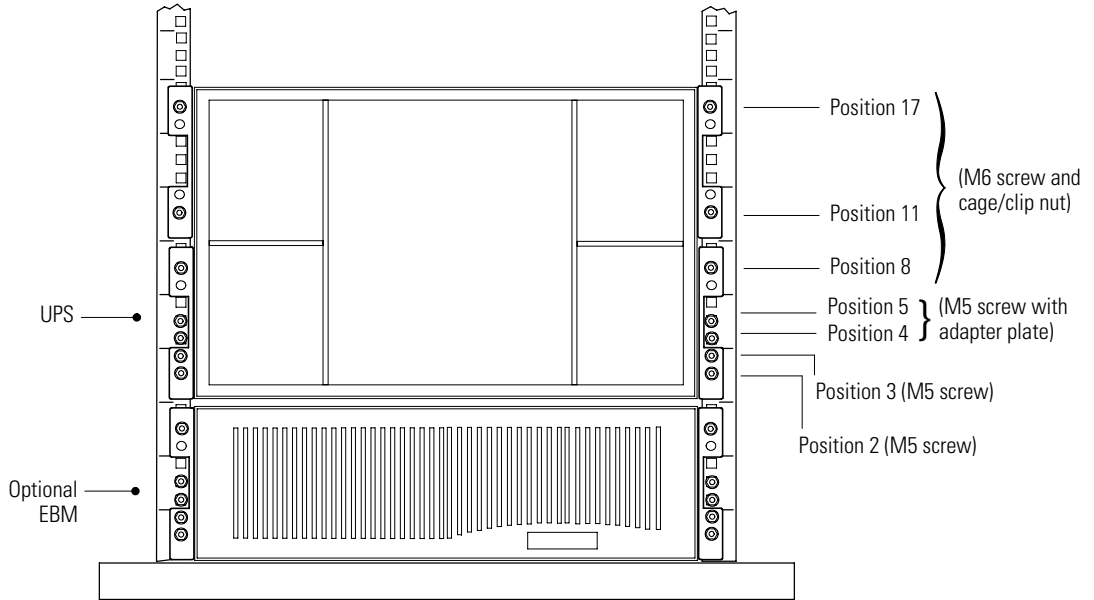

Figure 4. Securing the Front of the UPS
NOTE The UPS takes up position 1 through position 18 (see Figure 4 on page 6).
1. Using two M5 machine screws and an adapter plate, attach the rail to the front of the rack (see Figure 4 on page 6).
7. Install six cage or clip nuts as shown in Figure 4.
9. Secure the front of the cabinet to the rack as shown in Figure 4.